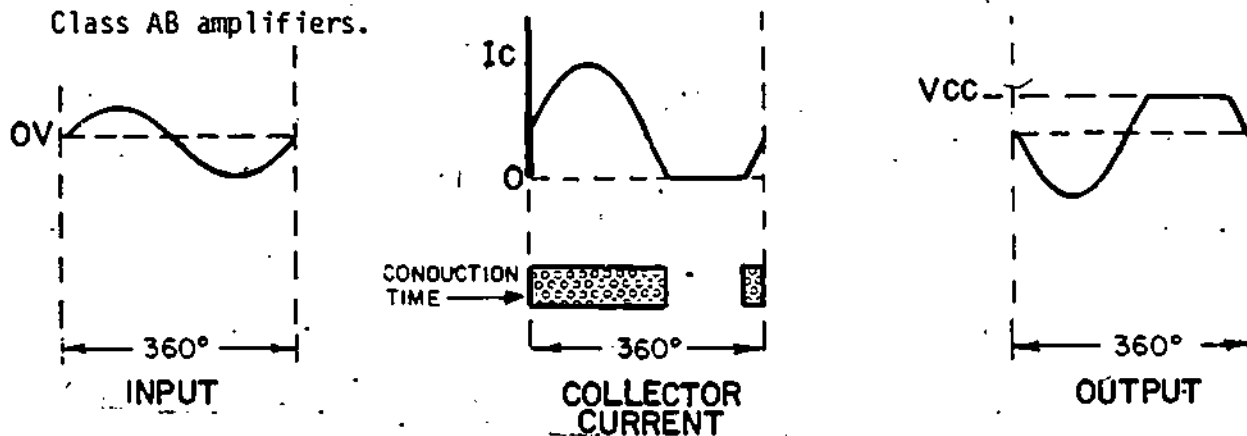

Figure 30
32. A third class of amplifier combines the best features of both class A and B amplifiers, and is Class AB. Figure 30 shows the operation of Class AB amplifiers.
In Class AB amplifiers, the transistor conducts for a longer duration than in Class B amplifiers, but for a shorter duration than Class A amplifiers. In the center diagram of Figure 30, the bar chart shows that the transistor conducts for one complete half-cycle, and for parts of the other half-cycle. Notice that the bias in Class AB amplifiers is set to cause the transistor to cutoff for less than half of the input cycle. The output waveform in Figure 30 is clipped off slightly, and is less distorted than for Class B amplifiers. The efficiency of Class AB amplifiers is between Class A and Class B amplifiers.